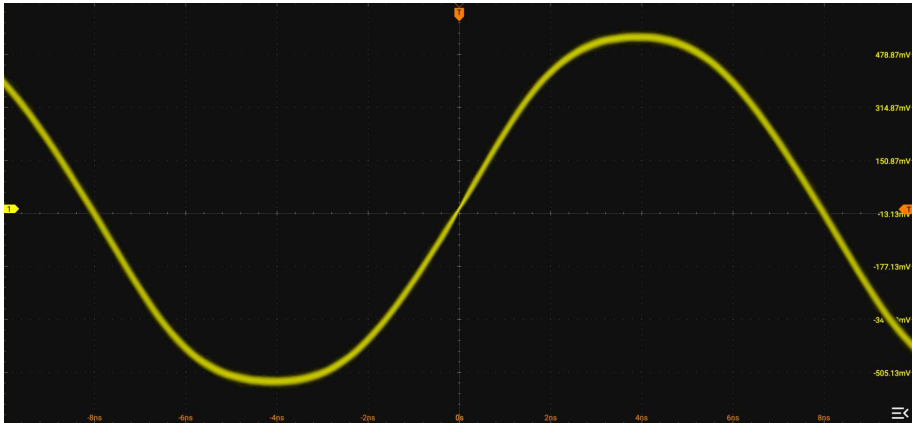

Figure 4.16 MDI Data Signal Waveform
2. After switching the connection diagram, the master clock signal generated from the DUT in Test Mode 2 and the MDI data signal measured by using TC2 are shown in *Figure 4.16*.